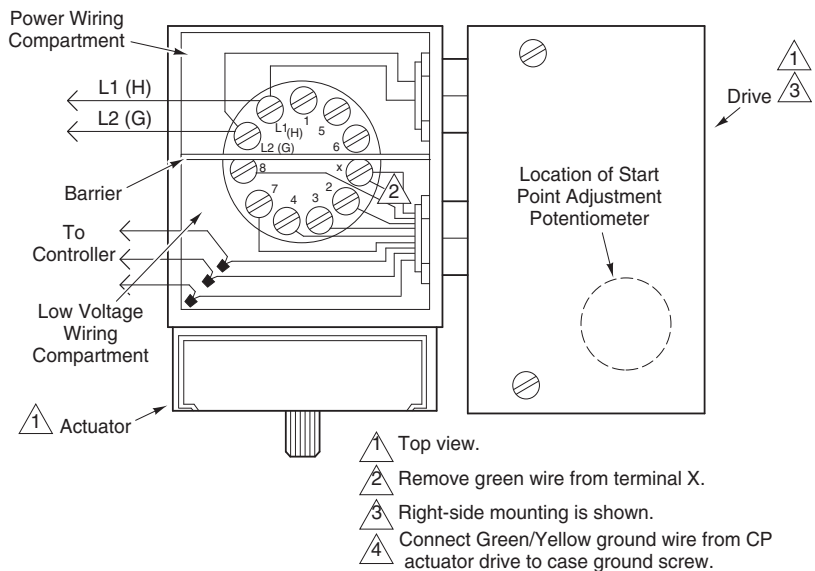

Figure-3 Actuator/Drive Wiring and Mounting Arrangement.
2. Secure the drive to the actuator with the two locknuts provided. Refer to Figure-3.
1. Peel back the Schneider Electric label from the drive, to expose the start point adjustment potentiometer. Refer to Figure-3.